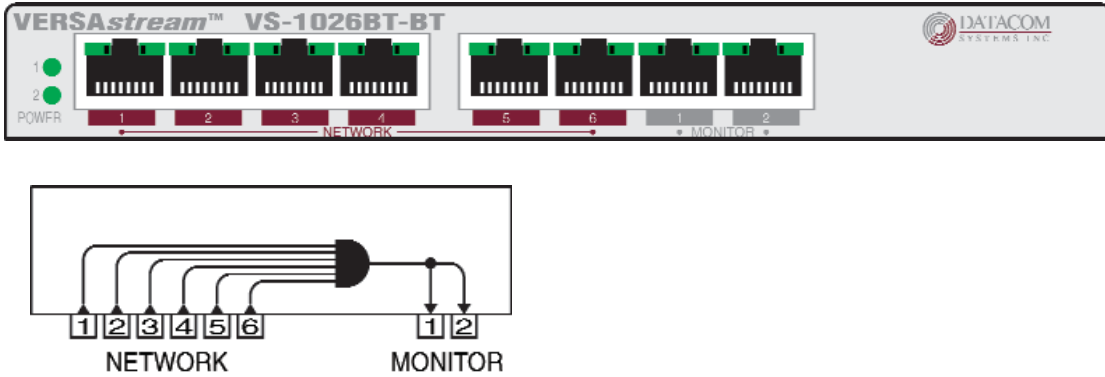

Figure 16 - VS-1026BT-BT Front Panel and functional diagram
**VERSAstream™ Multi-link Hardware Description** — Figure 16